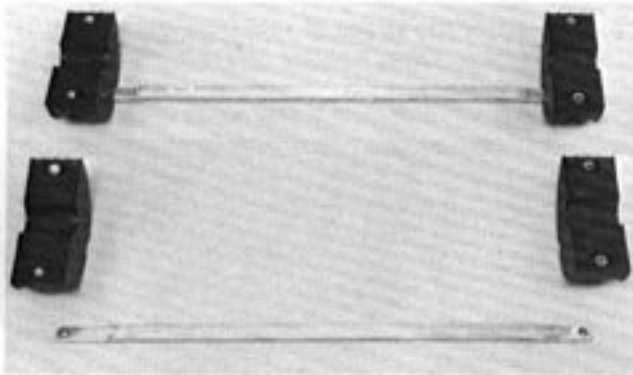

FIGURE 18 - APPLICATION OF C-CEMENT TO END PLATE SURFACES
8.01 Apply a thin coat of C-Cement to each inside surface of End Plates as shown in Figure 18.